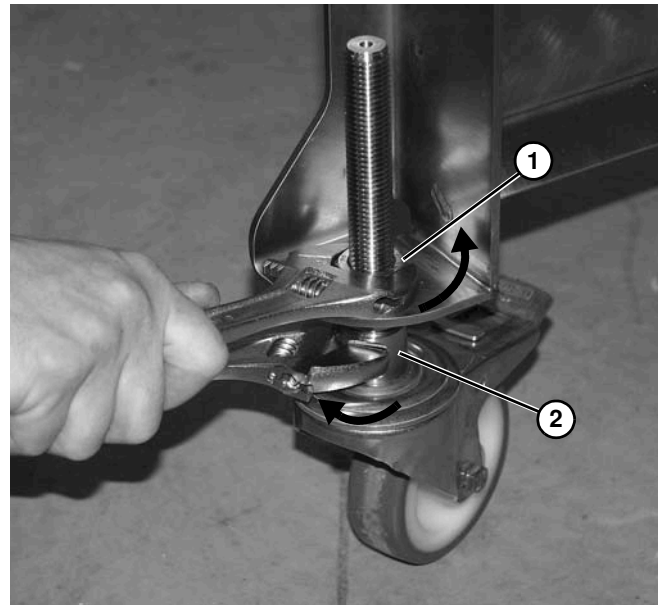
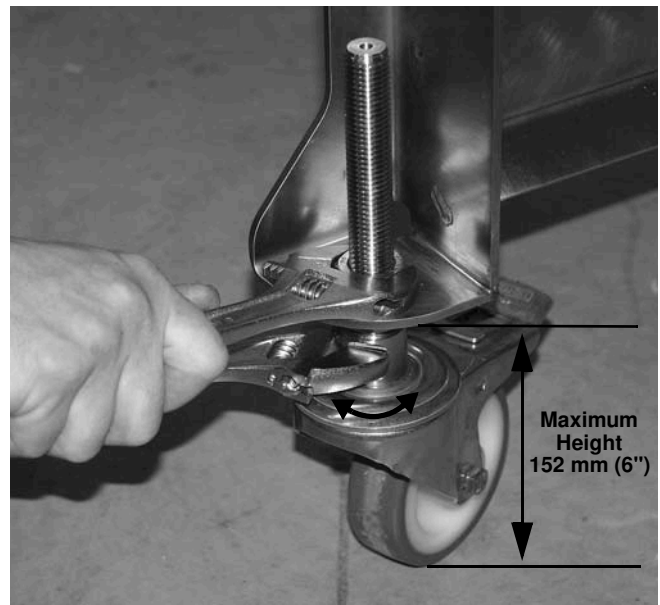

Figure 11
Figure 12
2. Loosen the upper nut (**Figure 11, item 1**) on the foot stem.
3. Rotate the foot stem (**Figure 11, item 2**) to raise or lower the stand (**Figure 12**).